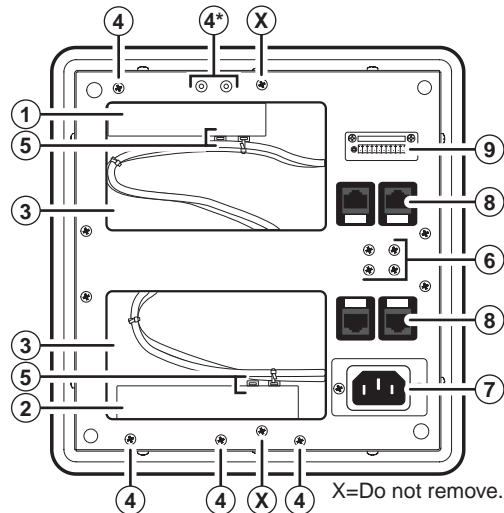

Figure 3-1 — HSA 822M maintenance features
Figure 3-1 shows the underside of the enclosure and many of the maintenance-related features.
NOTE The screws indicated by an asterisk (*) on figure 3-1 are accessible from the top (inside the enclosure).
6. If an AAP cable is no longer required in your system, from the underside of the enclosure, reach into the cable access holes (figure 3-1 on page 3-2, item ③), and cut the tie wraps (⑤) that route the AAP cables and network (CAT 6) cables inside the enclosure.
11. Replace the AAP/RJ-45 panel in the surface mount enclosure and secure them in place with the screws removed in step 2. If you lose an AAP/RJ-45 panel screw, four spare screws are stored in the underside of the enclosure (figure 3-1 on page 3-2, item ⑥).
6. Replace the AAP/RJ-45 panel in the surface mount enclosure and secure it in place with the screws removed in step 1. If you lose an AAP/RJ-45 panel screw, four spare screws are stored in the underside of the enclosure (figure 3-1 on page 3-2, item ⑥).
8. Disconnect the IEC power cord, the RJ-45 connectors, and the control and status connector (figure 3-1 on page 3-2, items ⑦, ⑧, and ⑨) from the connectors on the underside of the HSA.
- From the underside of the enclosure, reach into the cable access holes (figure 3-1 on page 3-2, item ③), and cut the tie wraps (⑤) that route the AAP cables and network (CAT 6) cables inside the enclosure. Carefully pull the cables through and out the bottom of the HSA.
18. Replace the AAP/RJ-45 panel in the surface mount enclosure and secure it in place with the screws removed in step 1. If you lose an AAP/RJ-45 panel screw, four spare screws are stored in the underside of the enclosure (figure 3-1 on page 3-2, item ⑥).
20. Connect the IEC power cord, the RJ-45 connectors, and the control and status connector (figure 3-1 on page 3-2, items ⑦, ⑧, and ⑨) to the connectors on the underside of the HSA.
1. Remove the surface mount enclosure from the table. See *Removing and Replacing the Enclosure*, steps 1 through 12. Place the enclosure on a horizontal surface. Let the AC and control and status connectors (figure 3-1 on page 3-2, items ⑦ and ⑨) hang off the edge of the surface so that they are accessible.